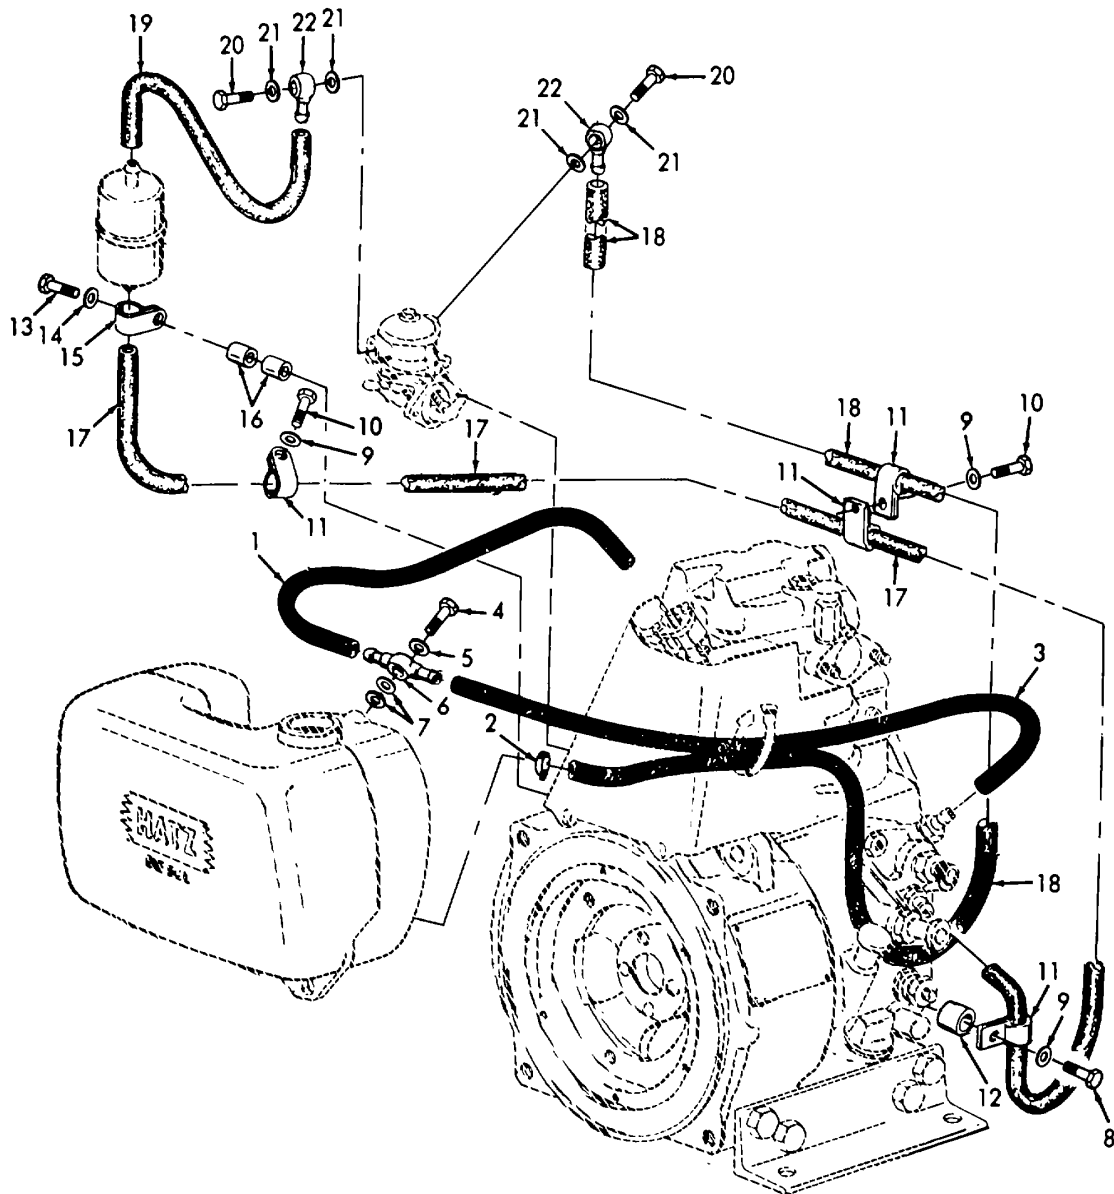

Figure 4-7. Fuel Lines, Hoses, and Fittings Removal/Installation.
a. Removal. (Refer to figure 4-7).
- (1) Remove hose (1), clamp (2), and hose (3).
- (2) Remove bolt (4), flat washer (5), banjo fitting (6), and two flat washers (7).
- (3) Remove screw (8), two screws (10), two flat washers (9), four clamps (11), and spacer (12).
- (4) Remove screw (13), flat washer (14), clamp (15), and two spacers (16).